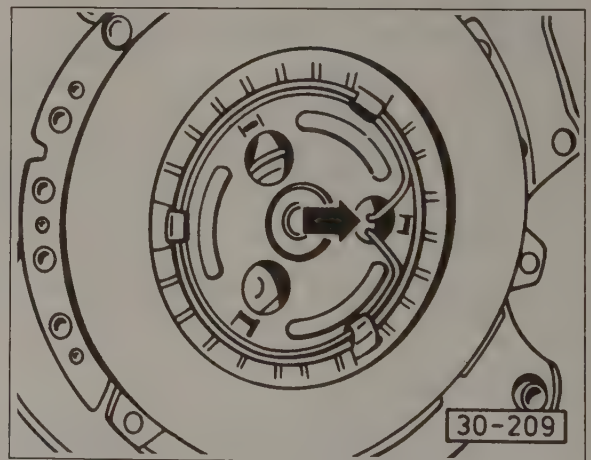

Fig. 5-9. Installation of clutch release plate retaining ring. Ends of ring rest in hole of release plate (arrow).
6. Place the clutch release plate in position and install the retaining ring. Lightly lubricate the contact surface of the plate and the center seat for the clutch pushrod with lithium grease. Align the ends of the retaining ring as shown in Fig. 5-9.